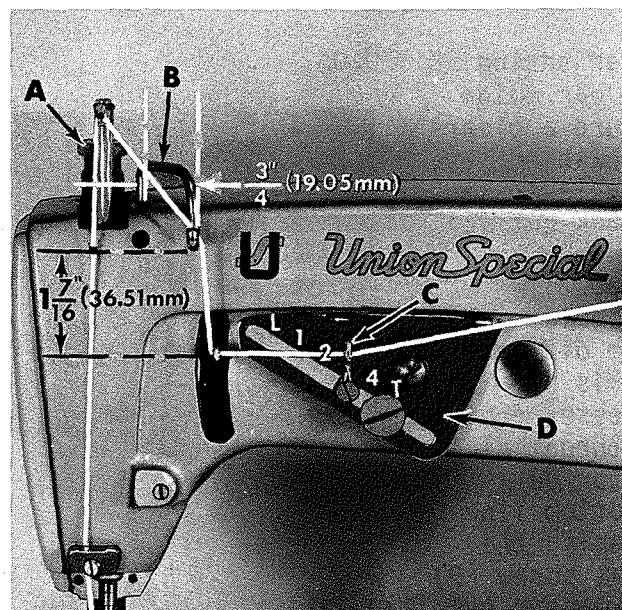

Fig. 14
Adjust presser spring regulating screw (A, Fig. 14) so that it exerts only enough pressure on the presser foot to feed the work uniformly when a slight tension is placed on the fabric. This is the knurled screw, located directly behind the needle bar in the head of the machine. Turning it
With needle bar at the top of its stroke, set needle thread take-up wire (B, Fig. 14) so its lower extended surface is 1 7/16 inch (36.51mm) above centerline of needle lever thread eyelet hole and 3/4 inch (19.05mm) across the centerlines of its vertical surfaces (See Fig. 14).
Adjust looper thread tension to a minimum required for controlling the looper thread (light). Set thread index eyelet (C, Fig. 14) at "3" on the adjusting plate (D). Changing the needle thread tension only, balance the stitch so that when 6" of sewn seam are raveled back, the needle thread is approximately as long as the looper thread. A 1" difference in lengths is permissible.